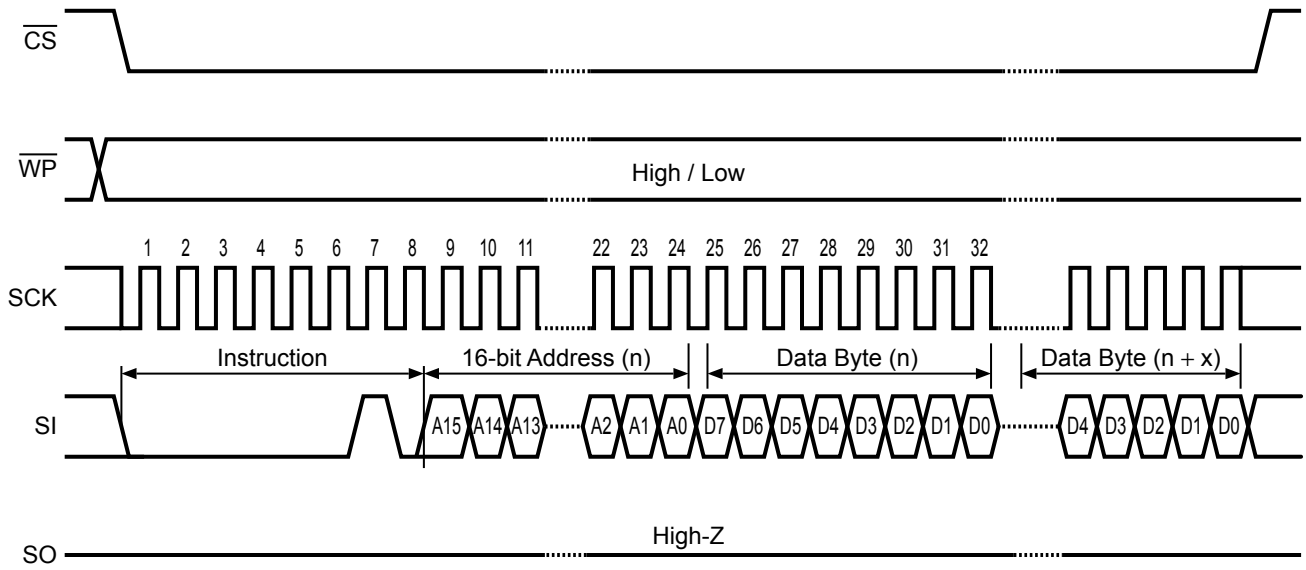

Figure 17 WRITE Operation (Page)
The S-25C512A can Page Write of 128 bytes. Its function to transmit data is as same as Byte Write basically, but it operates Page Write by receiving sequential 8-bit Write data as much data as page size has. Input the instruction code, the address and data from serial data input (SI) after inputting “L” in \overline{CS} , as the WRITE operation (page) shown in Figure 17. Input the next data while keeping \overline{CS} in “L”. After that, repeat inputting data of 8-bit sequentially. At the end, by setting \overline{CS} to “H”, the WRITE operation starts (t_{PR}).